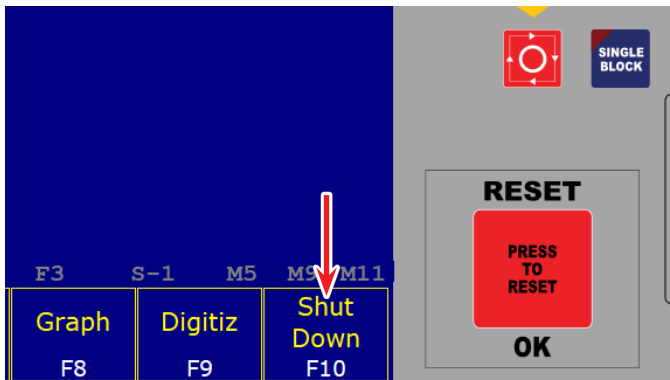

FIGURE 15
F. Click on Shut Down F10 (see Figure 15).